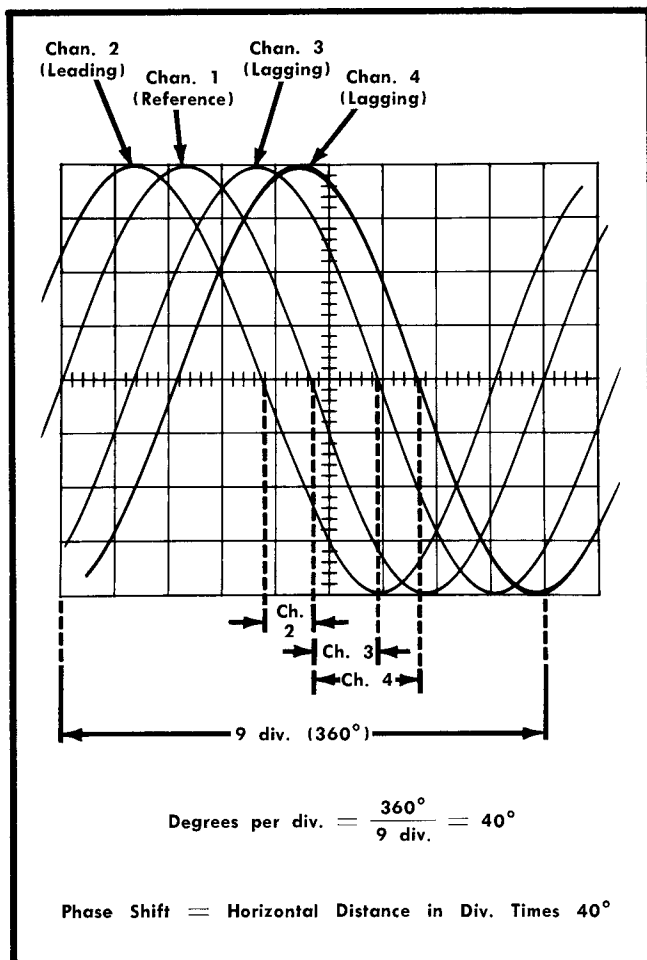

Fig. 3-3. Measuring the phase shift between electrical waveforms.
8. Rotate the Variable Time/Div. control of the time base counterclockwise until one cycle of the reference signal occupies exactly 9 divisions horizontally. Use the Slope switches and the Triggering Level control of the time base to trigger on the reference waveform at any point you desire. Each division on the screen now represents 40° of one cycle at this time-base setting (see Fig. 3-3).